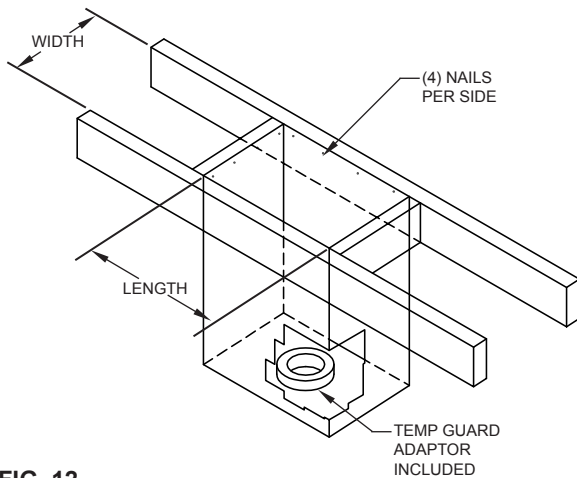

FIG. 12
3. Using framing lumber equal to ceiling joist size, frame opening as shown in FIG. 12. Framing that is perpendicular to the roof joists must also be vertically mounted so that support can be installed vertically.